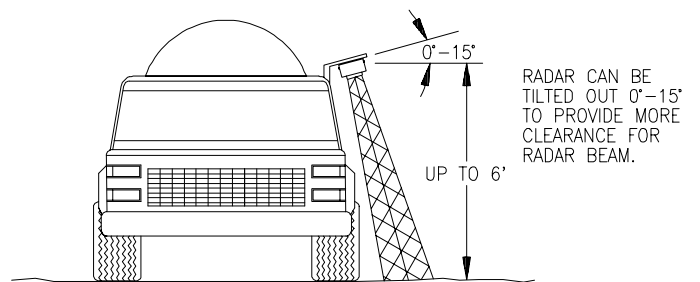

FIGURE 2
- b) The Radar lens must be parallel to the ground from front to back. Radar can be tilted out 0-15 degrees to provide more clearance and miss obstructions. See Figure 2. Figure 2.